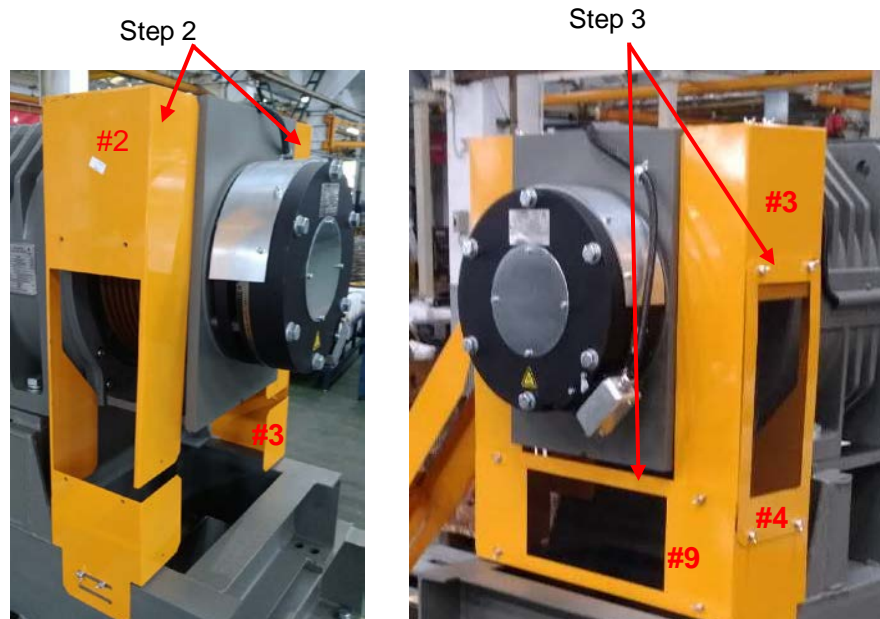

Figure 2 Install Sheave Covers and Mesh Covers
**Step 2:** Install Sheave Cover Left [#3] and Right [#2] to the L Brackets and the bedplate riser using (4) each wing bolts, flat washers, and lock washers. See Figure 2.
**Step 3:** Install the Front Mesh Cover [#9] to the Sheave Covers using (4) wing bolts, flat washers, and lock washers. Then install the Car Side Mesh Cover [#4] to the Sheave Cover using (4) wing bolts, flat washers, and lock washers. See Figure 2.